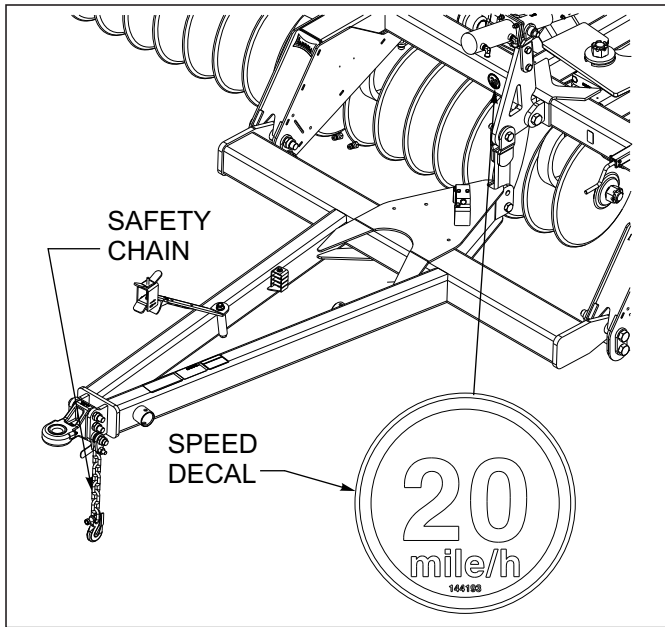

Figure 4-16: Hitch, Speed Identification Symbol, and Safety Chain
2. The 7530 should be transported only by tractor required for field operation. The implement weight should not exceed more than 1.5 times the tractor weight. Maximum transport speed for the 7530 is 20 mph for the implement and is designated on the speed identification symbol located on the front of the implement (**See Figure 4-16.**)
- b. Attach the safety chain to the tractor drawbar (**See Figure 4-16.**) Provide only enough slack in the chain for turning. Do not use an intermediate chain support as the attaching point for the chain on the tractor. Do not pull the implement by the safety chain.